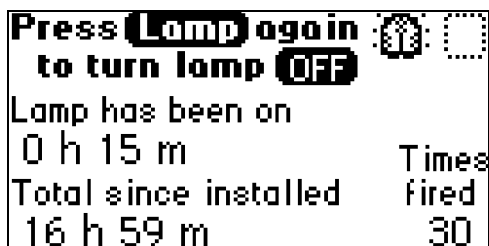

Figure 3-25 Lamp Control Screen
- Display the lamp control screen (Figure 3-25), which indicates: